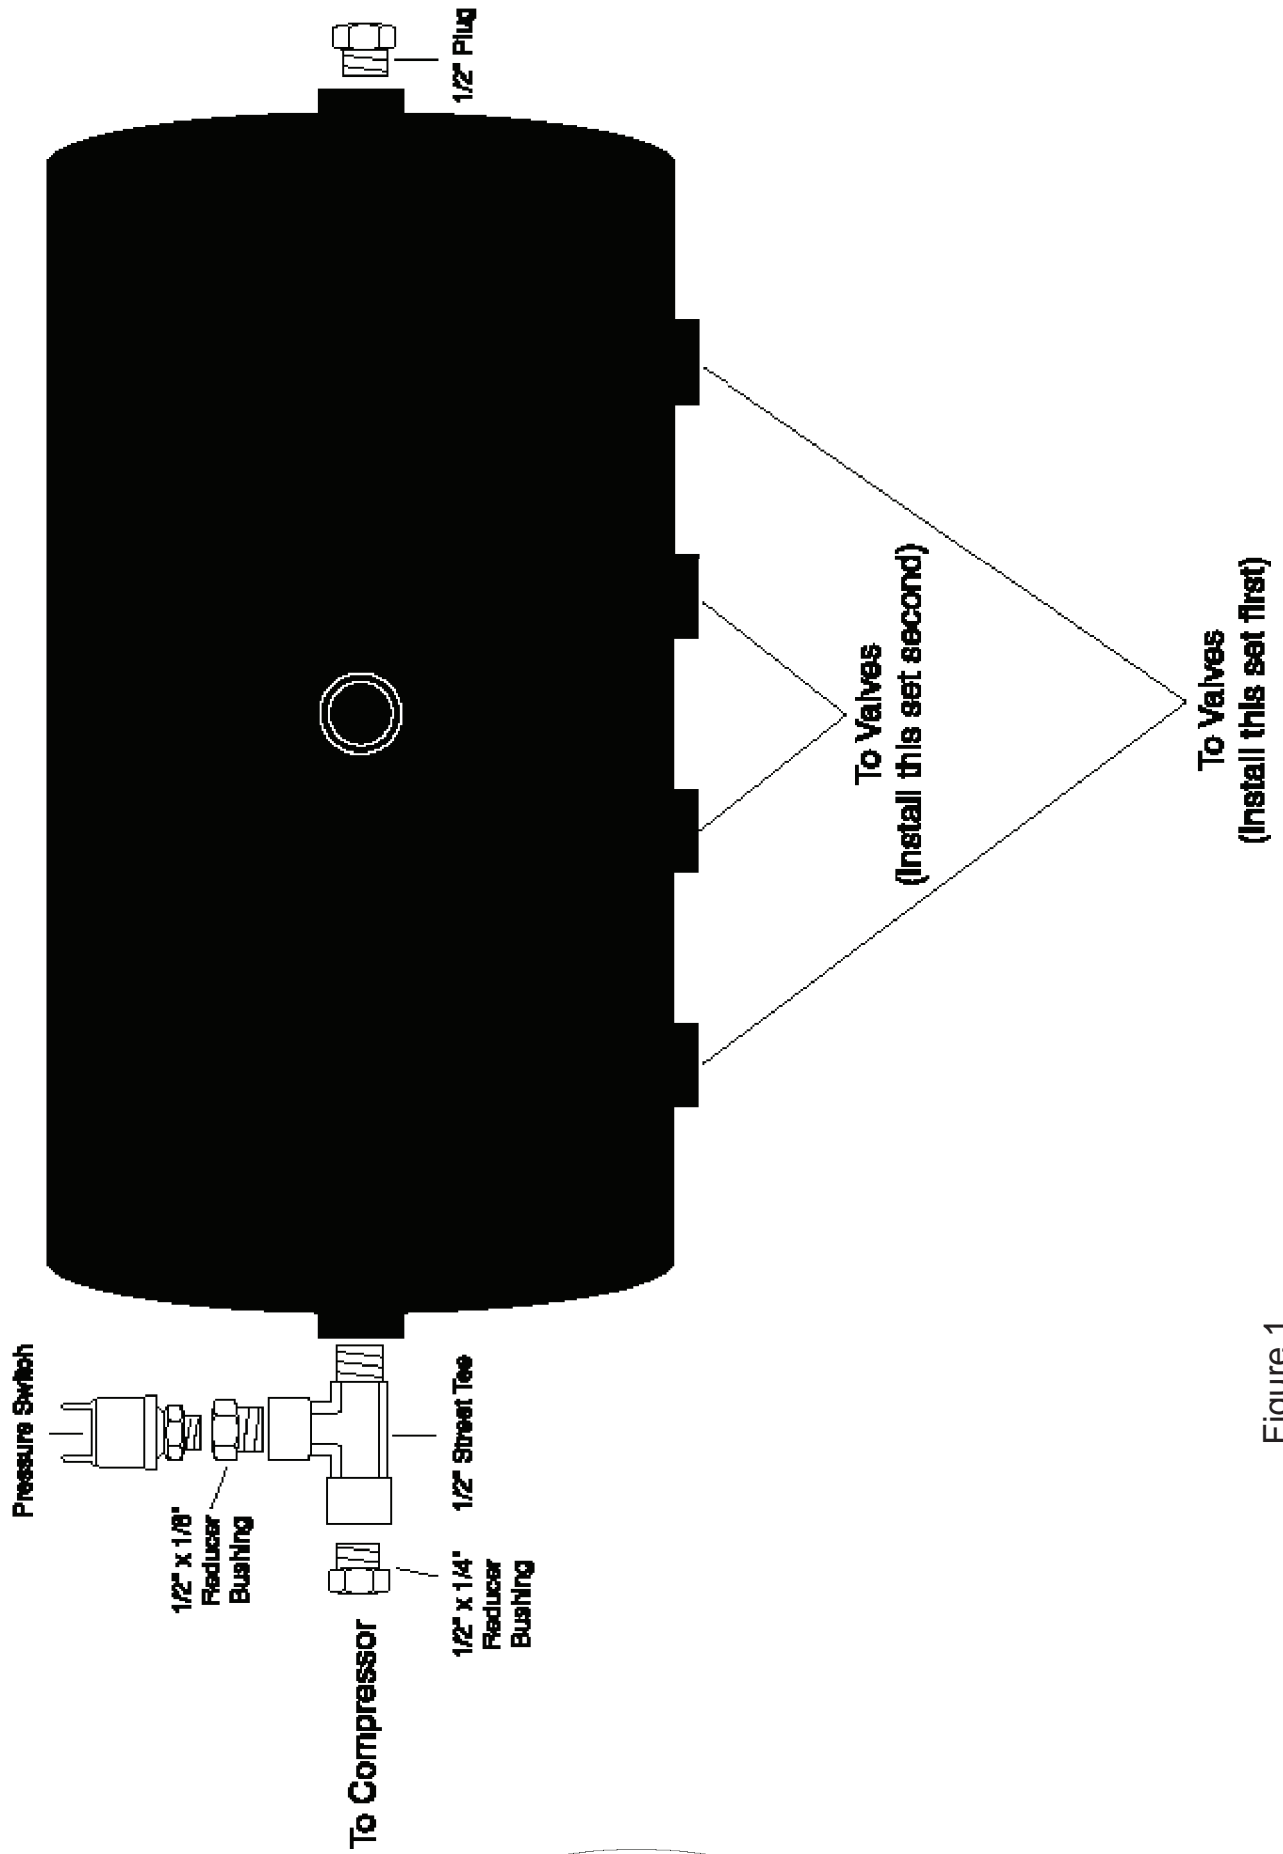

Figure 1
- The solenoid valves will mount to the air tank. Refer to the schematic in Figure 1 to determine the correct sequences of valves.
2. Assemble a $\frac{1}{2}$ " x $\frac{1}{4}$ " bushing to the side of the street tee provided. Install the 145/175 p.s.i. pressure switch and a $\frac{3}{8}$ " to $\frac{1}{8}$ " reducer to the top of the tee. Install this assembly to the port on one end of the air tank (Figure 1).
3. Install the supplied plug to the other end of the air tank (Figure 1).
Attach a $\frac{3}{8}$ " nipple to the street tee facing down. Attach the dump valve with the "In" port facing the street tee. Attach a $\frac{3}{8}$ " x $\frac{1}{2}$ " tube fitting to the other side of the dump valve. Install a 2"-3" piece of $\frac{1}{2}$ " hose to this fitting. Attach a $\frac{3}{8}$ " x $\frac{1}{2}$ " tube 90° fitting to the last port on the street tee. This port goes to the air strut (Figure 2). Assemble the valve assemblies this way for the two outer most ports on the tank (Figure 1).
6. Attach the two assemblies to the outer ports on the air tank, leaving the two inside ports empty for the other assemblies (Figure 1).